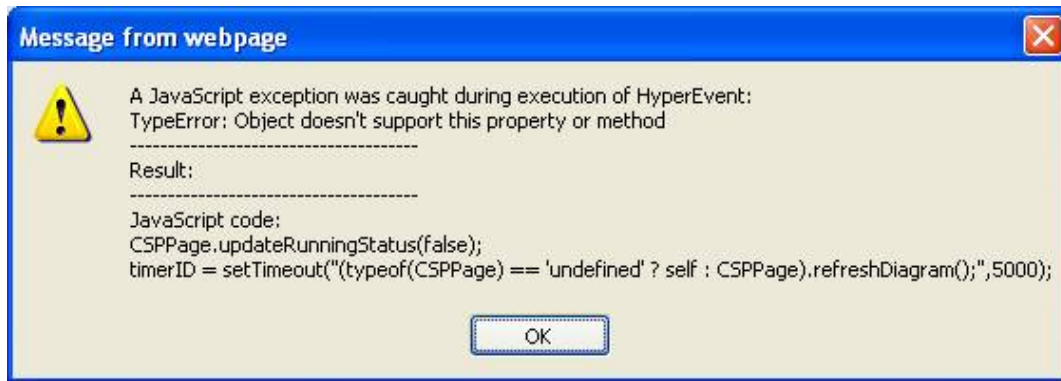

Figure 5-9: JavaScript error
- c. If the JavaScript exception error shown in Figure 5-9 is displayed after the message to install the Adobe SVG Viewer, click **OK**. If you do not receive the error, skip to Step 9.
8. If you are using Internet Explorer 9 and receive the JavaScript error shown in Figure 5-9, you must change a security setting in Internet Explorer and download an SVG viewer plugin from Adobe.